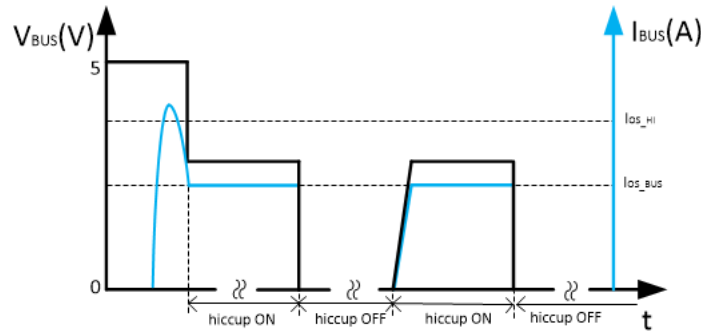

FIG 10-13. BUS Overcurrent Protection: Two-Level Current Limit
- The third condition is the load current increases above the I_{OS_HI} setting. In this case, the USB power switch current limit threshold is set back to the primary current limit, I_{OS_BUS} , immediately. If the load still demands a current greater than I_{OS_BUS} , the USB output voltage decreases to $I_{OS_BUS} \times R_{LOAD}$ for a resistive load, which is shown in Figure 10-13. If the overcurrent limit condition lasts longer than 4.1 ms, the corresponding USB channel enters hiccup mode with 524 ms of off-time and 4.1 ms of on-time. Another USB channel still works normally.